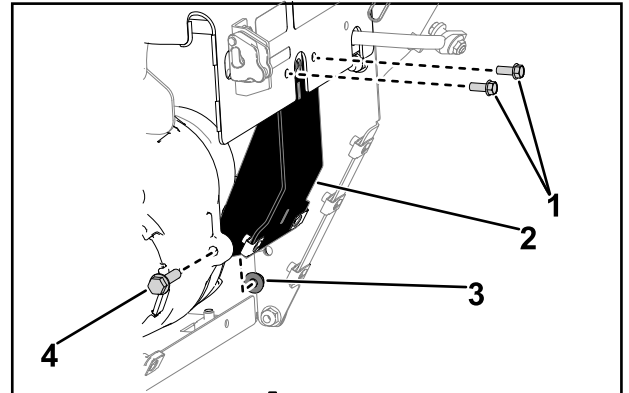

Figure 10
1. From the back of the machine, remove the 2 screws (1/4 x 5/8 inch) securing the hydrostatic drive support to the top plate (Figure 10).
2. Remove the bolt (5/16 x 1-1/4 inch) and locknut (5/16 inch) securing the bottom of the hydrostatic drive support to the hydrostatic drive assembly. Remove the hydrostatic drive support from the machine (Figure 10).